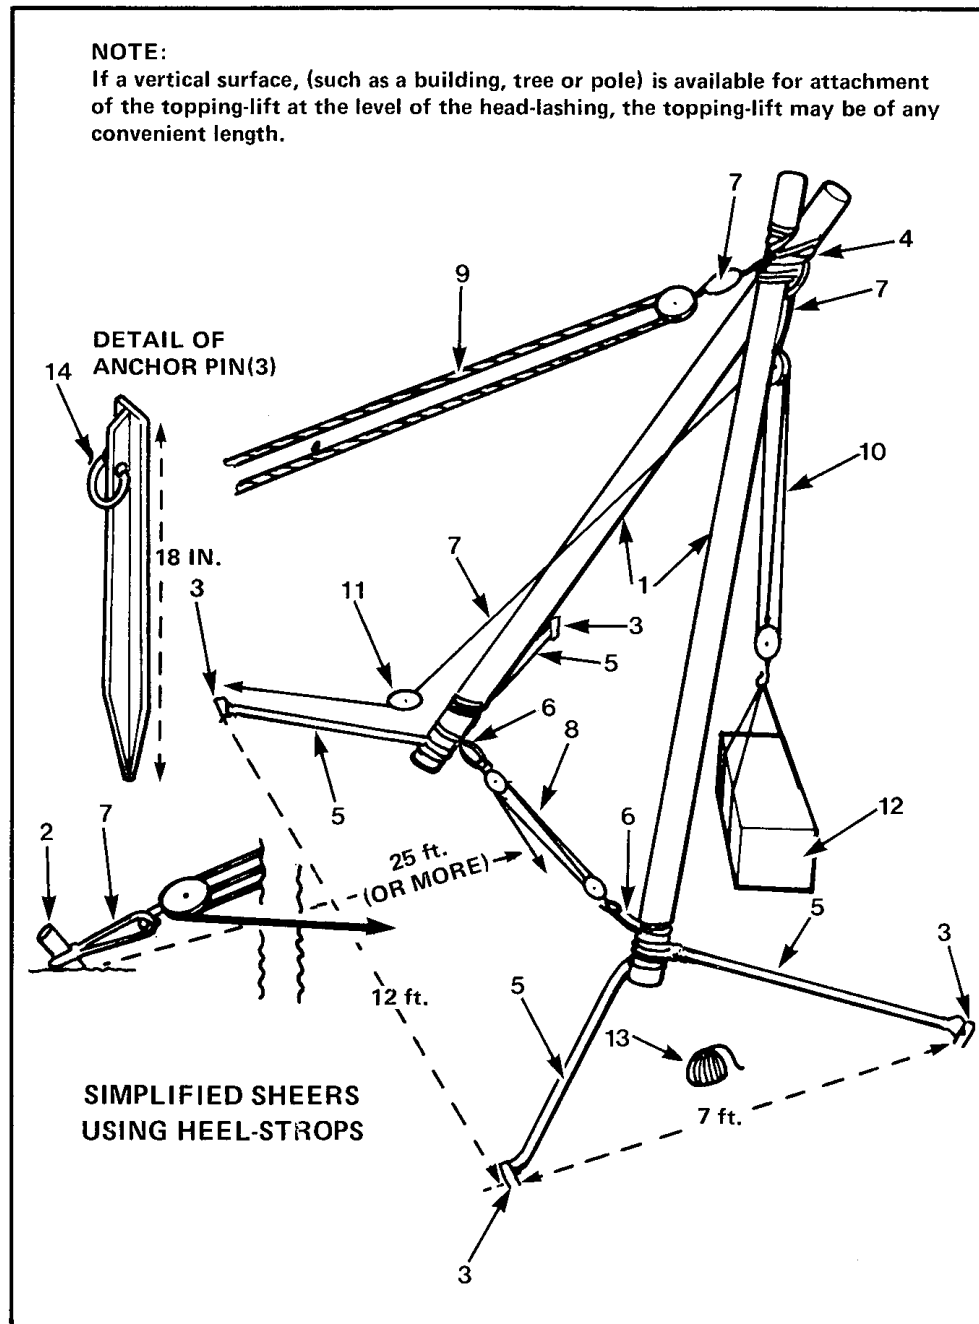

Figure 4-76 Simplified Shears Using Heel-Strops
39. **Use of Heel Strops** — If the points of anchorage for the heels of the sheers can be placed symmetrically, it is possible to use strops instead of tackles for the purpose, using the splay tackle alone to set up the necessary tension in the system. This results in a considerable economy in blocks and tackle. Such a method may be employed where the sheers are set up outdoors, using symmetrically-placed anchor-pegs as points of attachment for the heel-strops. Such an arrangement is illustrated in Figure 4-76. It is important that the distances between the anchor-pegs and the length of the heel-strops be appropriate. The figures shown in the diagram are suitable for 14-foot sheers. For other sizes, these dimensions will have to be worked out by trial and error. Bear in mind that the length of the strop must take into consideration the portion that passes around the leg of the sheers.
40. **Parts List** — The list below is a recommended parts list for the simplified shears illustrated in Figure 4-76. The numbers correspond to those in the diagram. Note that the anchor pins illustrated are for the heel-strops, not for the topping lift, which requires more secure anchorage. The dimensions given are for the 14- to 16-foot shears illustrated and will require alteration for different sizes. Once the various strops and the